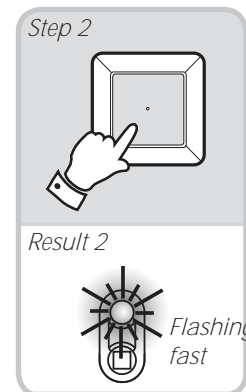

Fig. 21
- The LED flashes fast to indicate deletion has taken place (see Fig. 21).